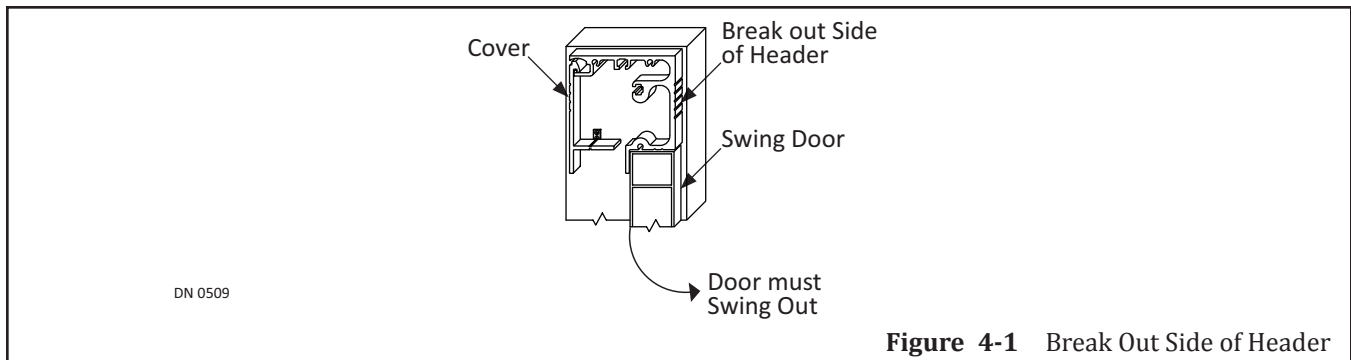

Figure 4-1 Break Out Side of Header
1. Obtain approximately (40) #12-24 x 7/16 inch thread forming screws provided by NABCO.
2. Place Swing door directly underneath the Break Out side of Header. Please see Figure 4-1.